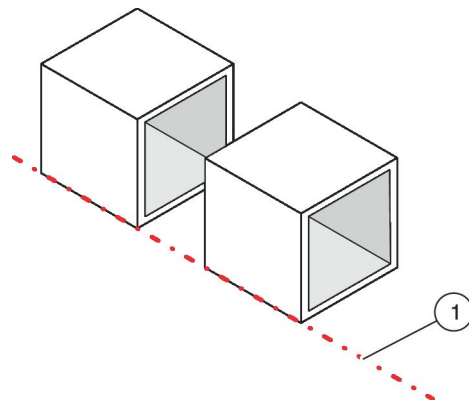

Fig. 16: Aligning components
- ▶ Align the components in a line (Fig. 16 /1).